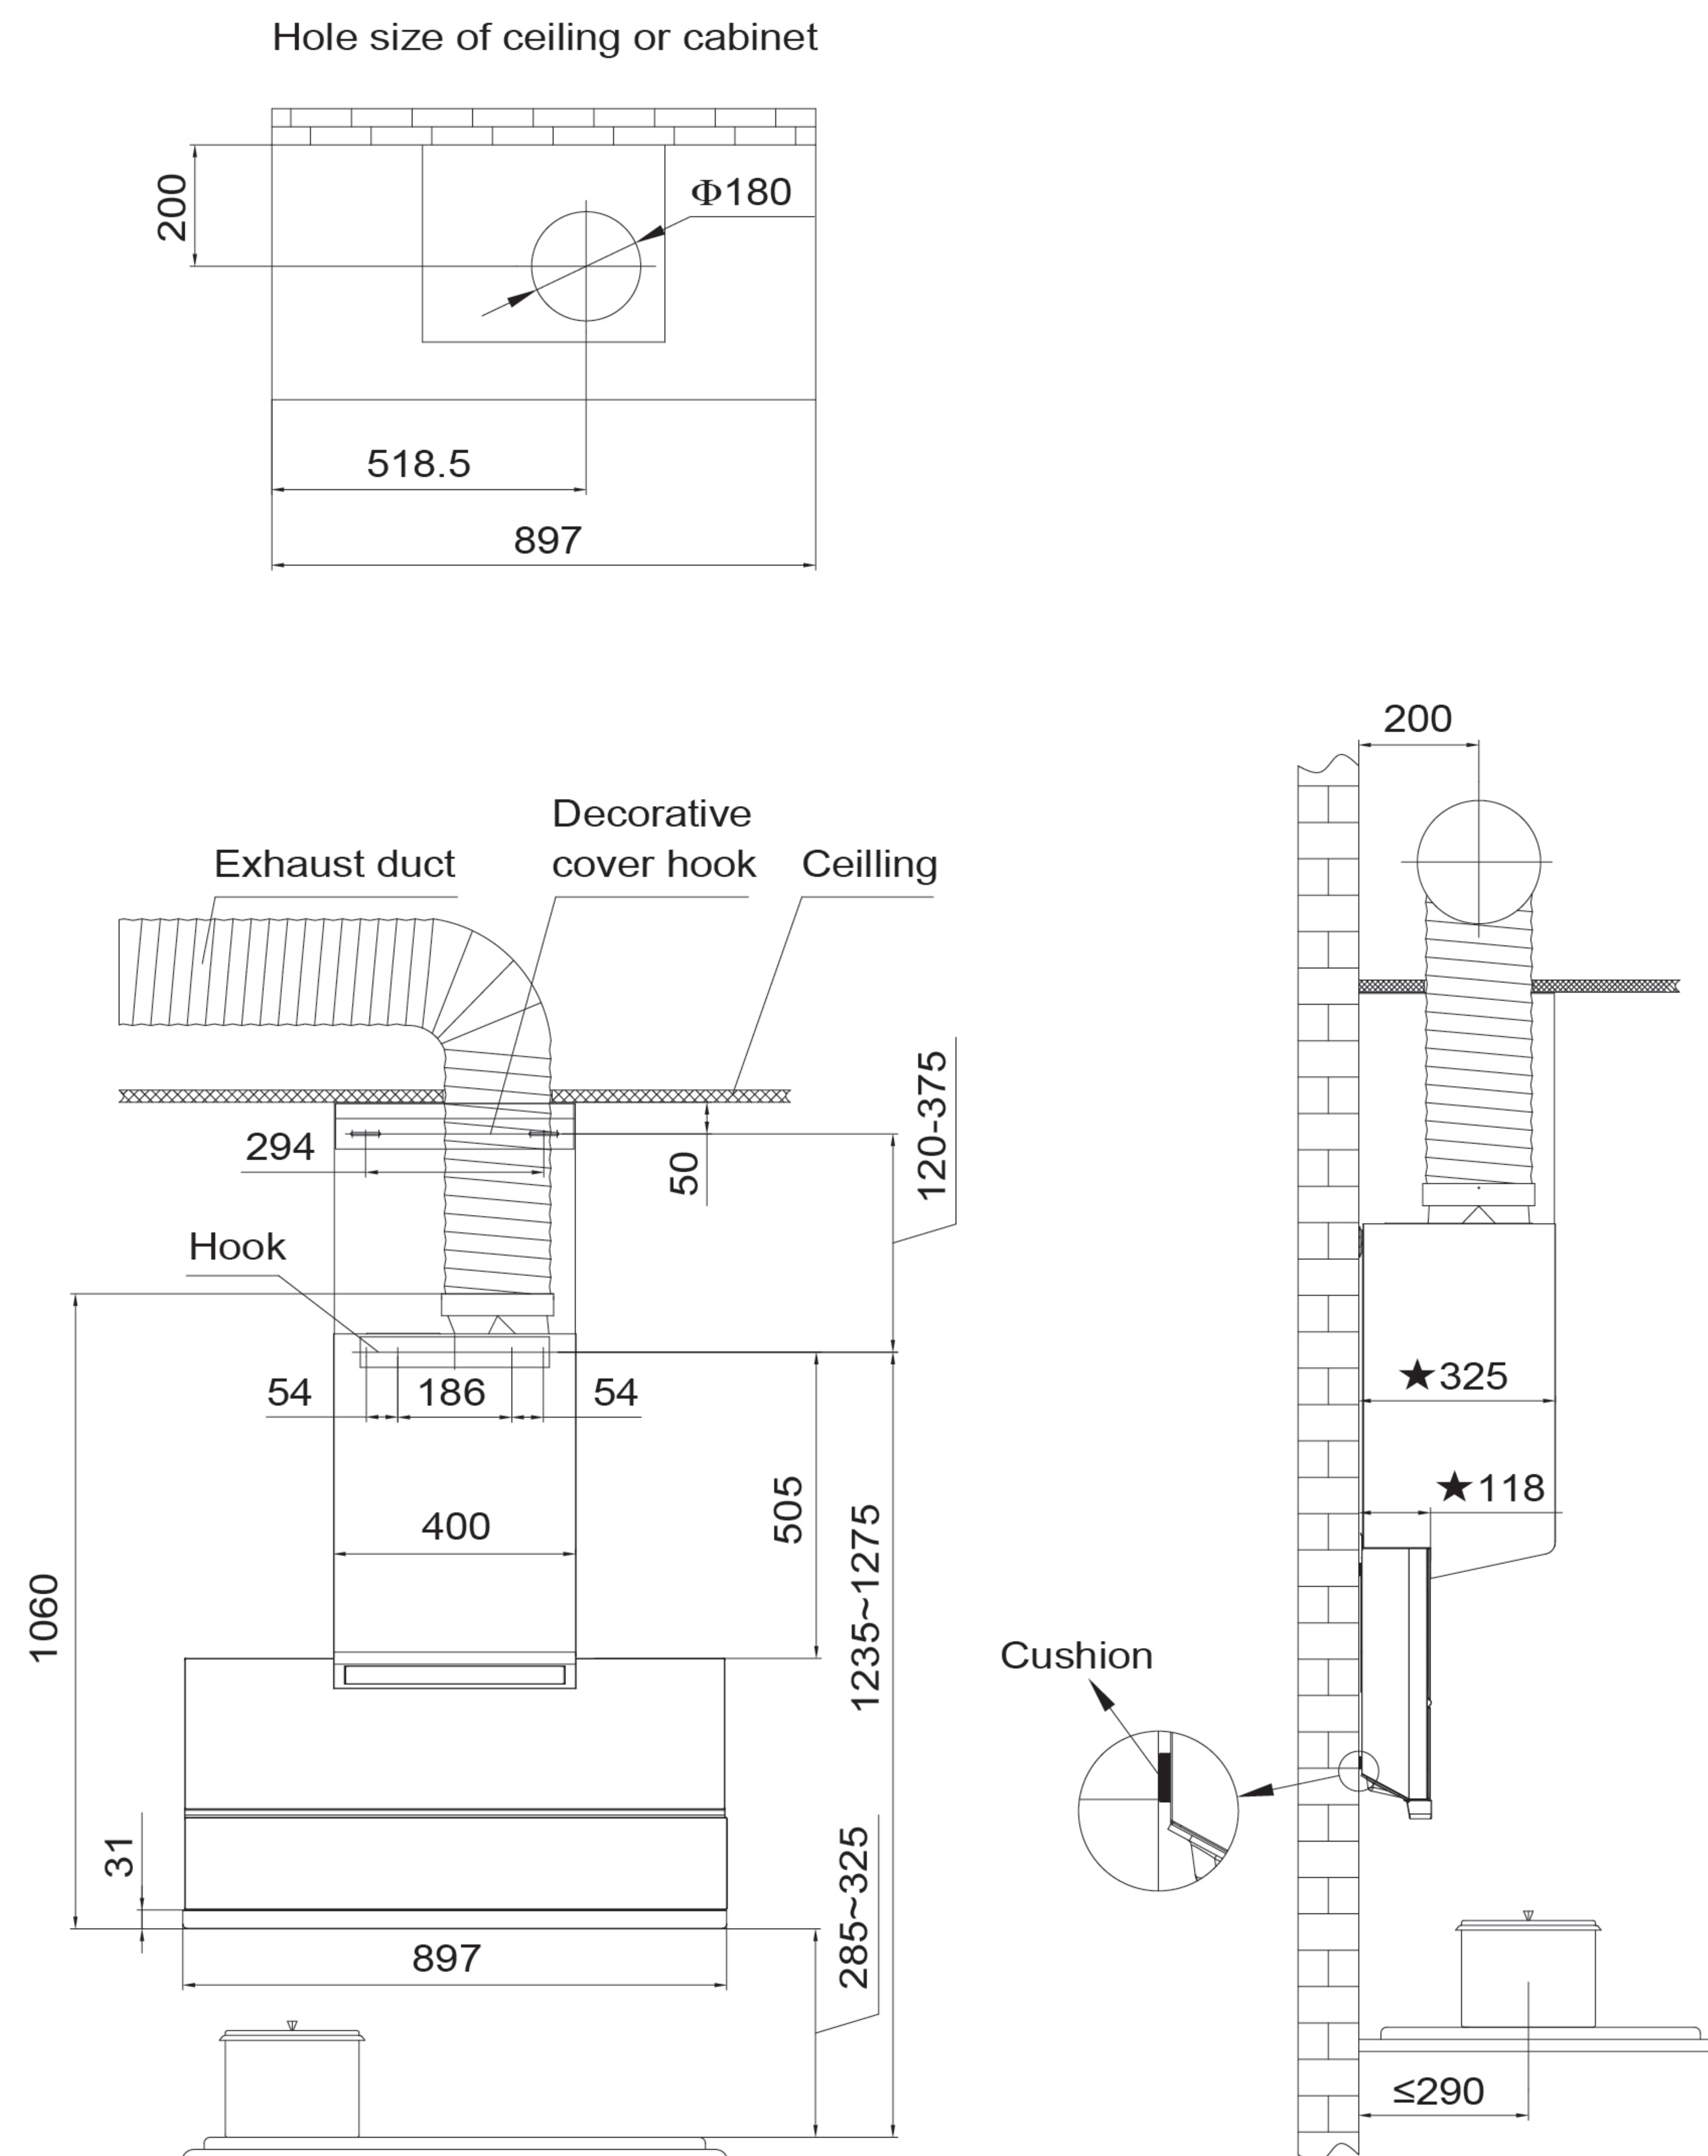
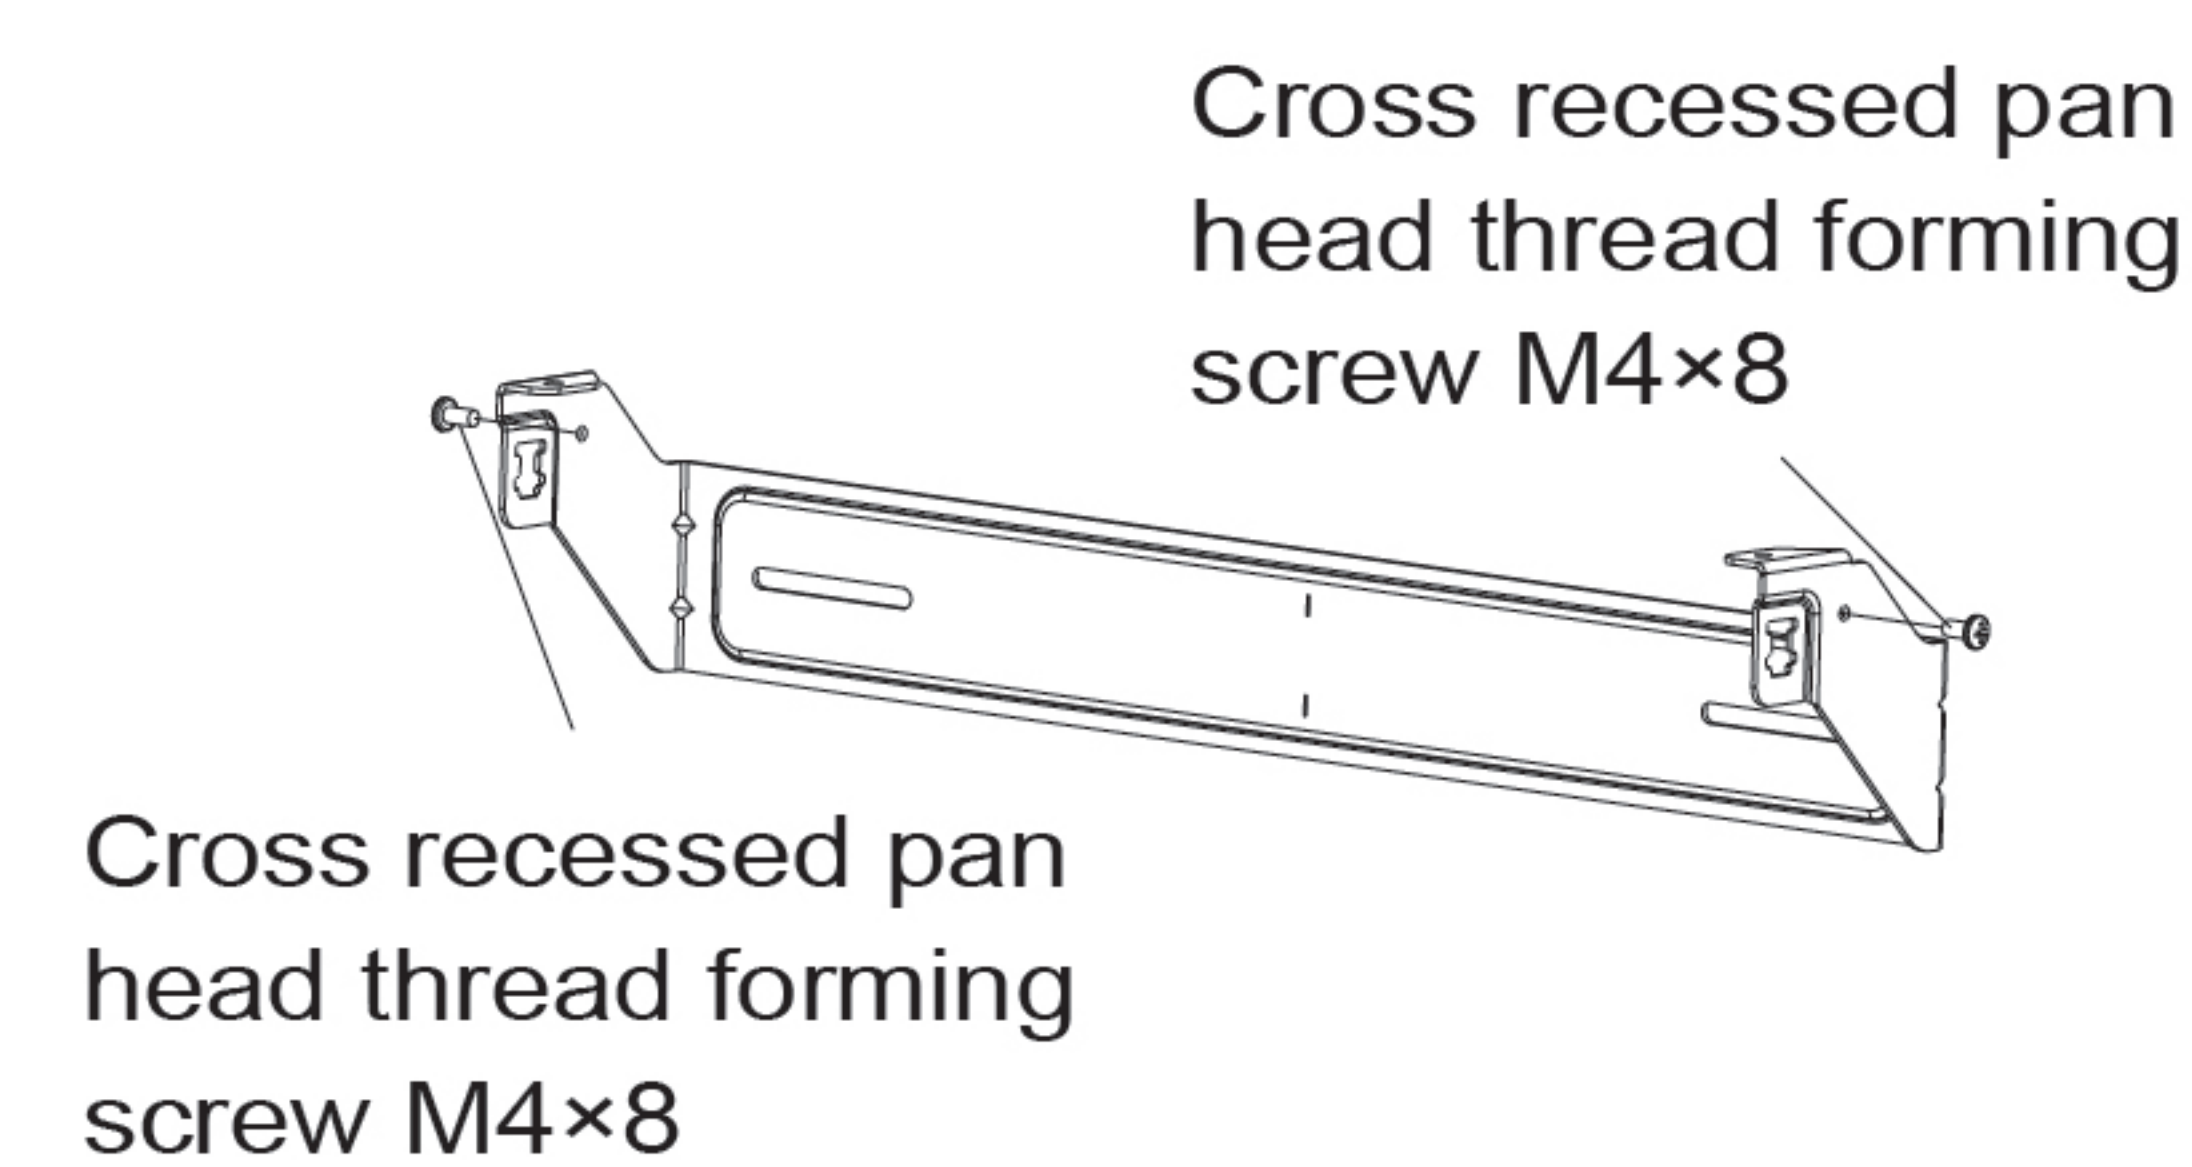
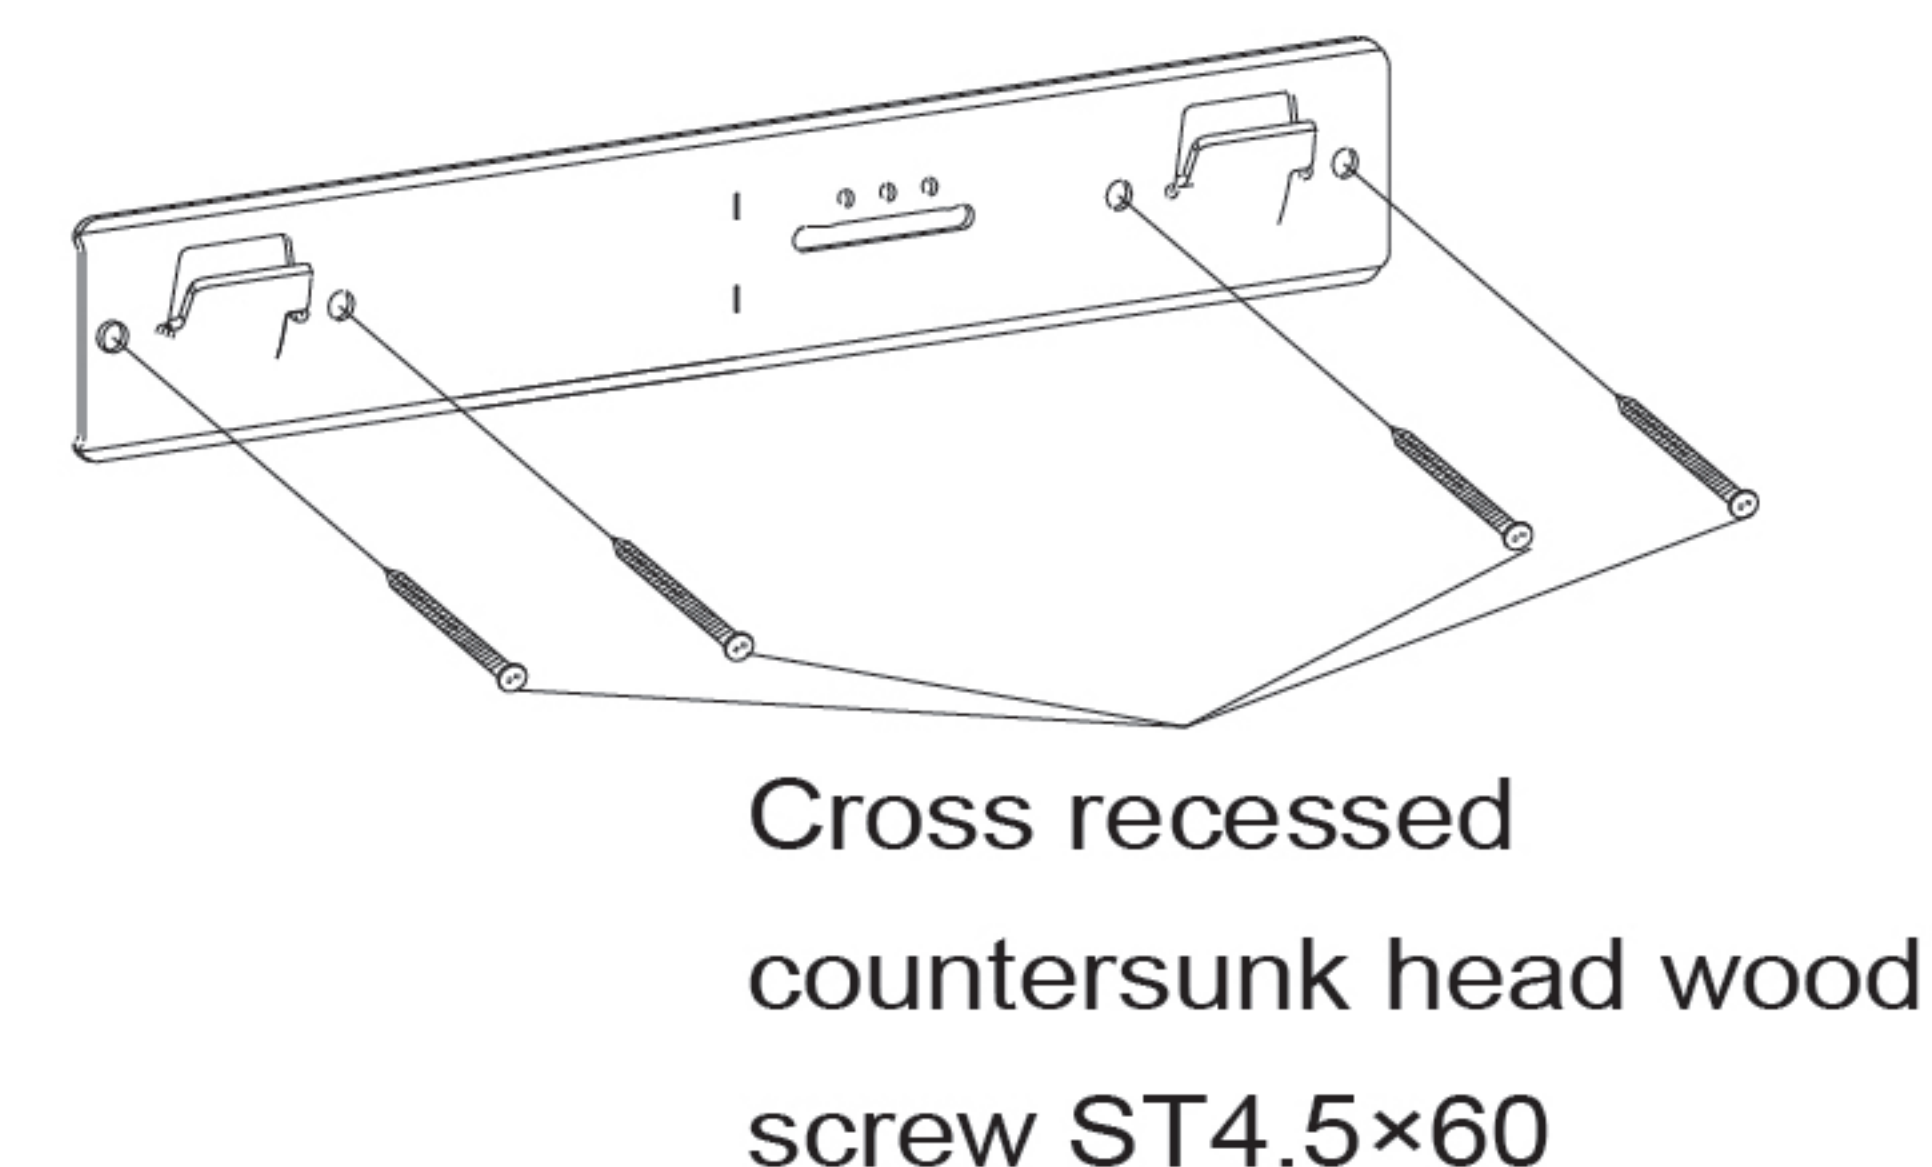
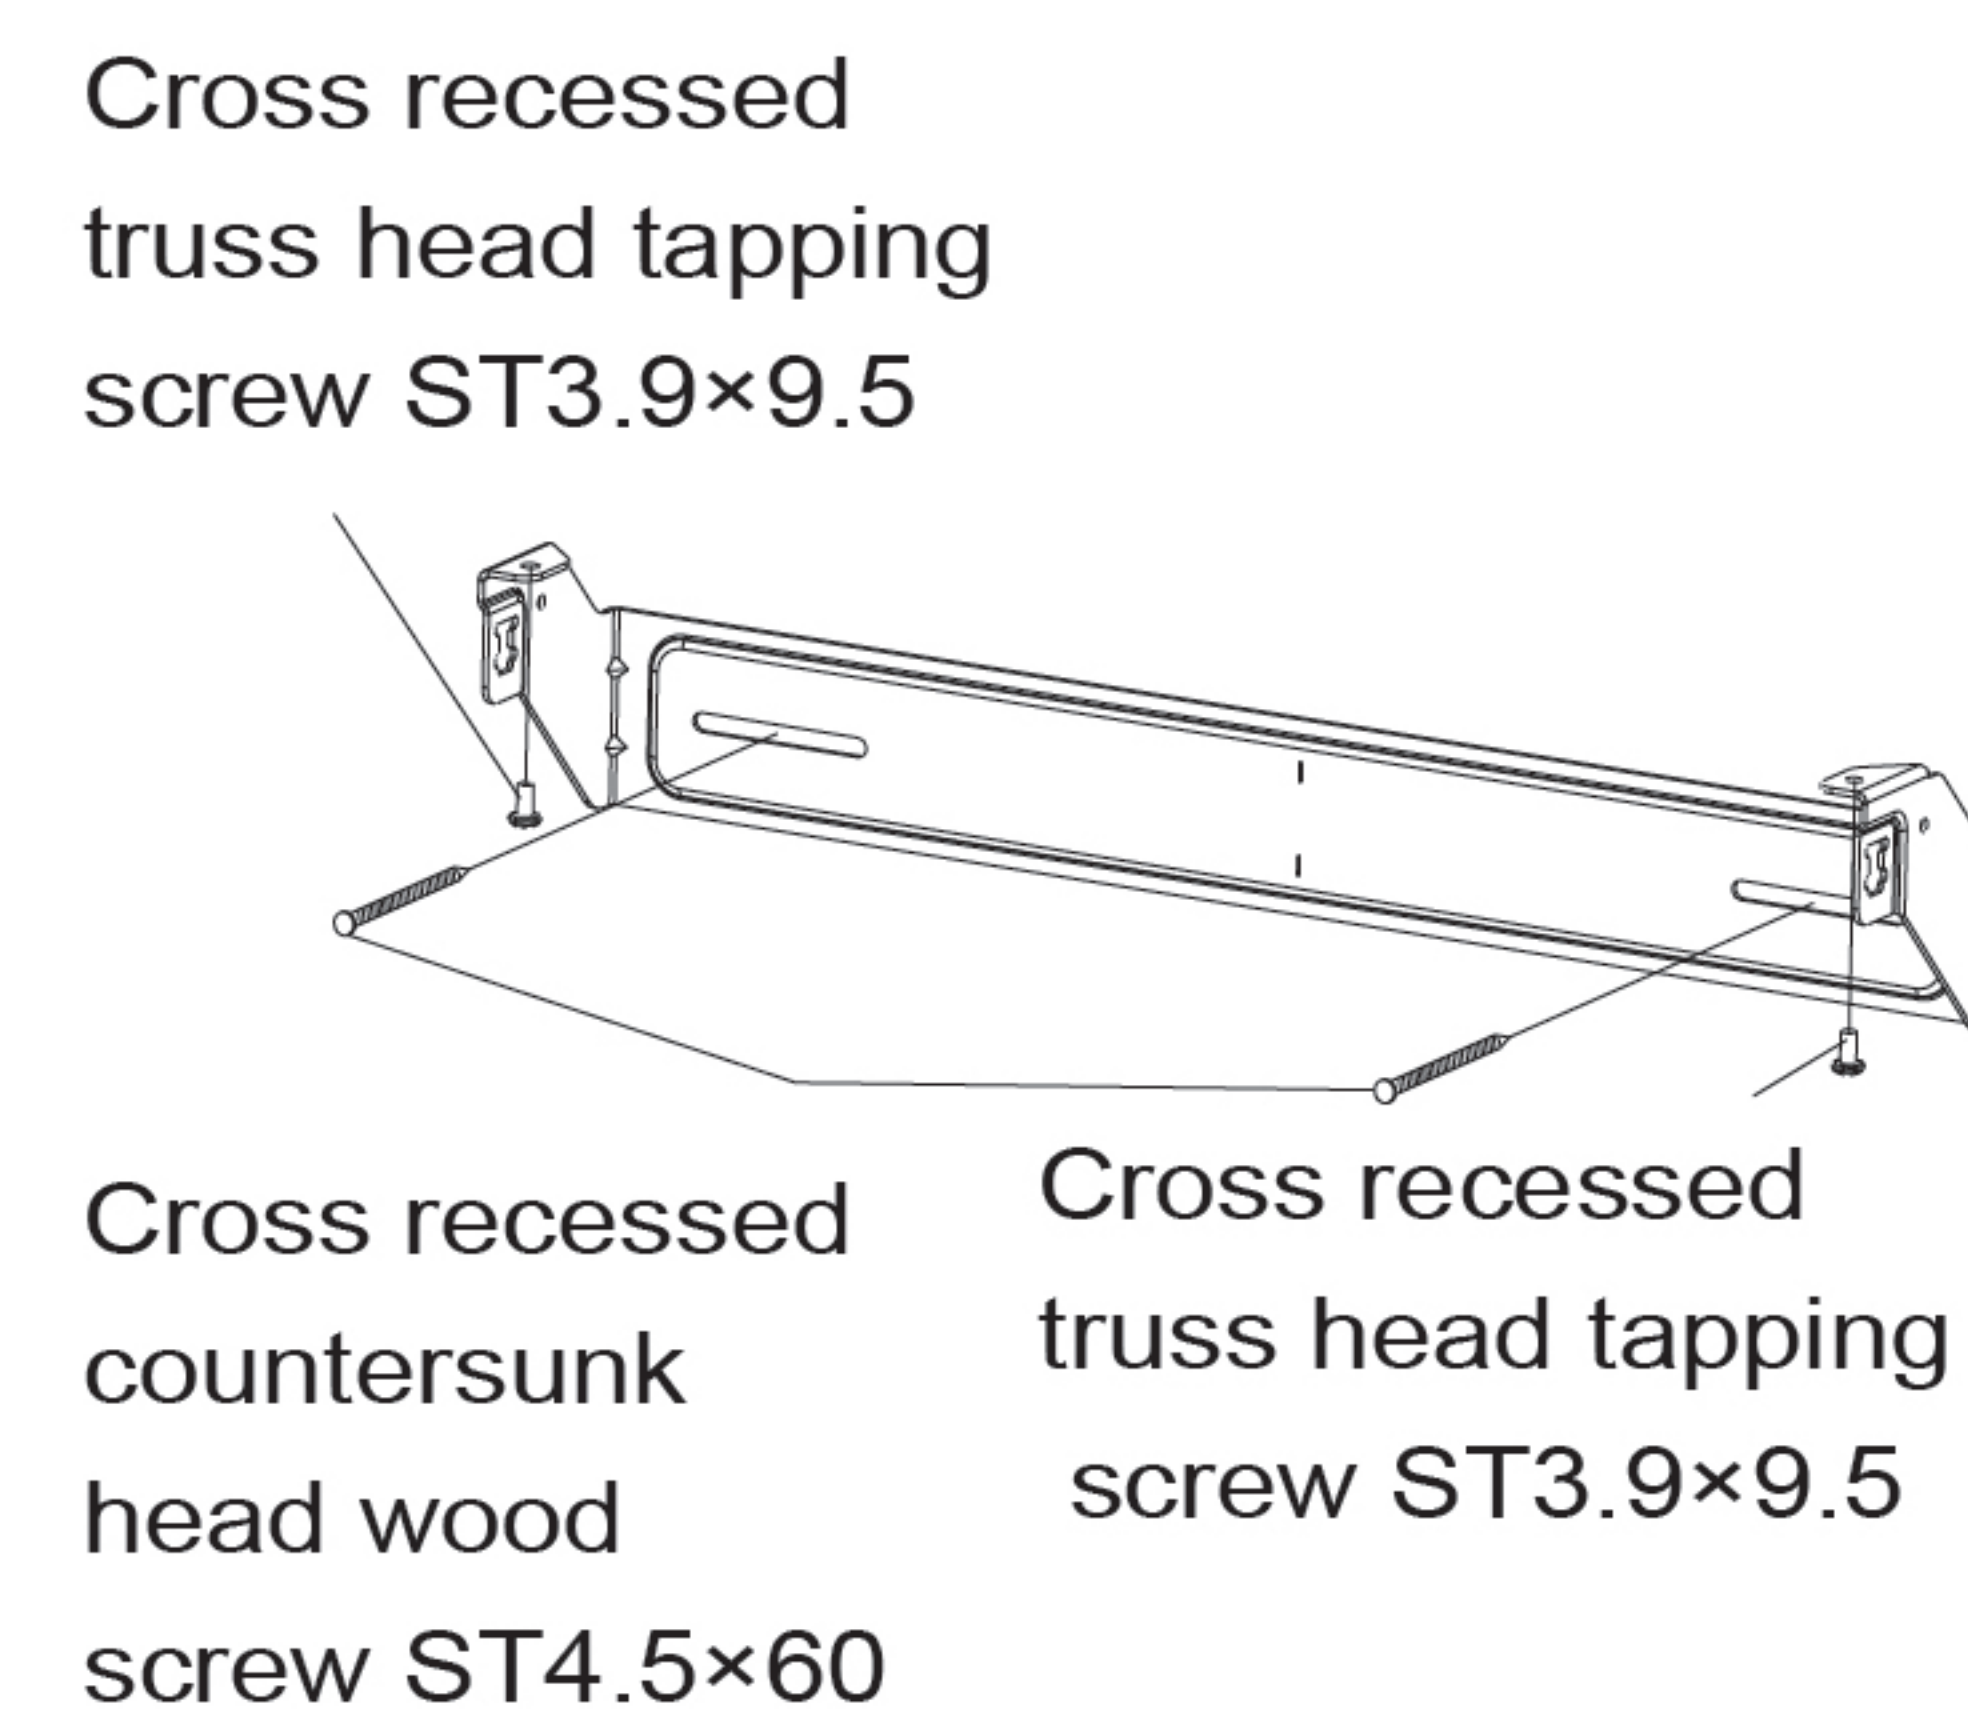

Fig.8 Installation Diagram
Fig.9
Fig.10
Fig.11
2. Determine the impact drill positions on a solid wall as per Fig. 8; drill holes accordingly; install the expansion tubes firmly. Fix 2 M4×8 pan head tapping screws on both sides of the decorative cover hook (2mm reserved between the screw head and the decorative cover hook, as shown in Fig. 9); fix the hook and the decorative cover hook on the wall with 6 ST4.5×60 wood screws; and take note that the front end of the decorative cover hook can be fixed to the ceiling with 2 ST3.9×9.5 tapping screws (as shown in Fig. 10 and Fig.11).
9. Install the exhaust duct as shown in Fig. 8; check and ensure that the duct wall is not bulged or shriveled and that the bend is flexible; tightly seal off the junction between the exhaust duct and the wall to avoid reverse smoke; and check and ensure that the check valve blades can rise and fall without obstruction.